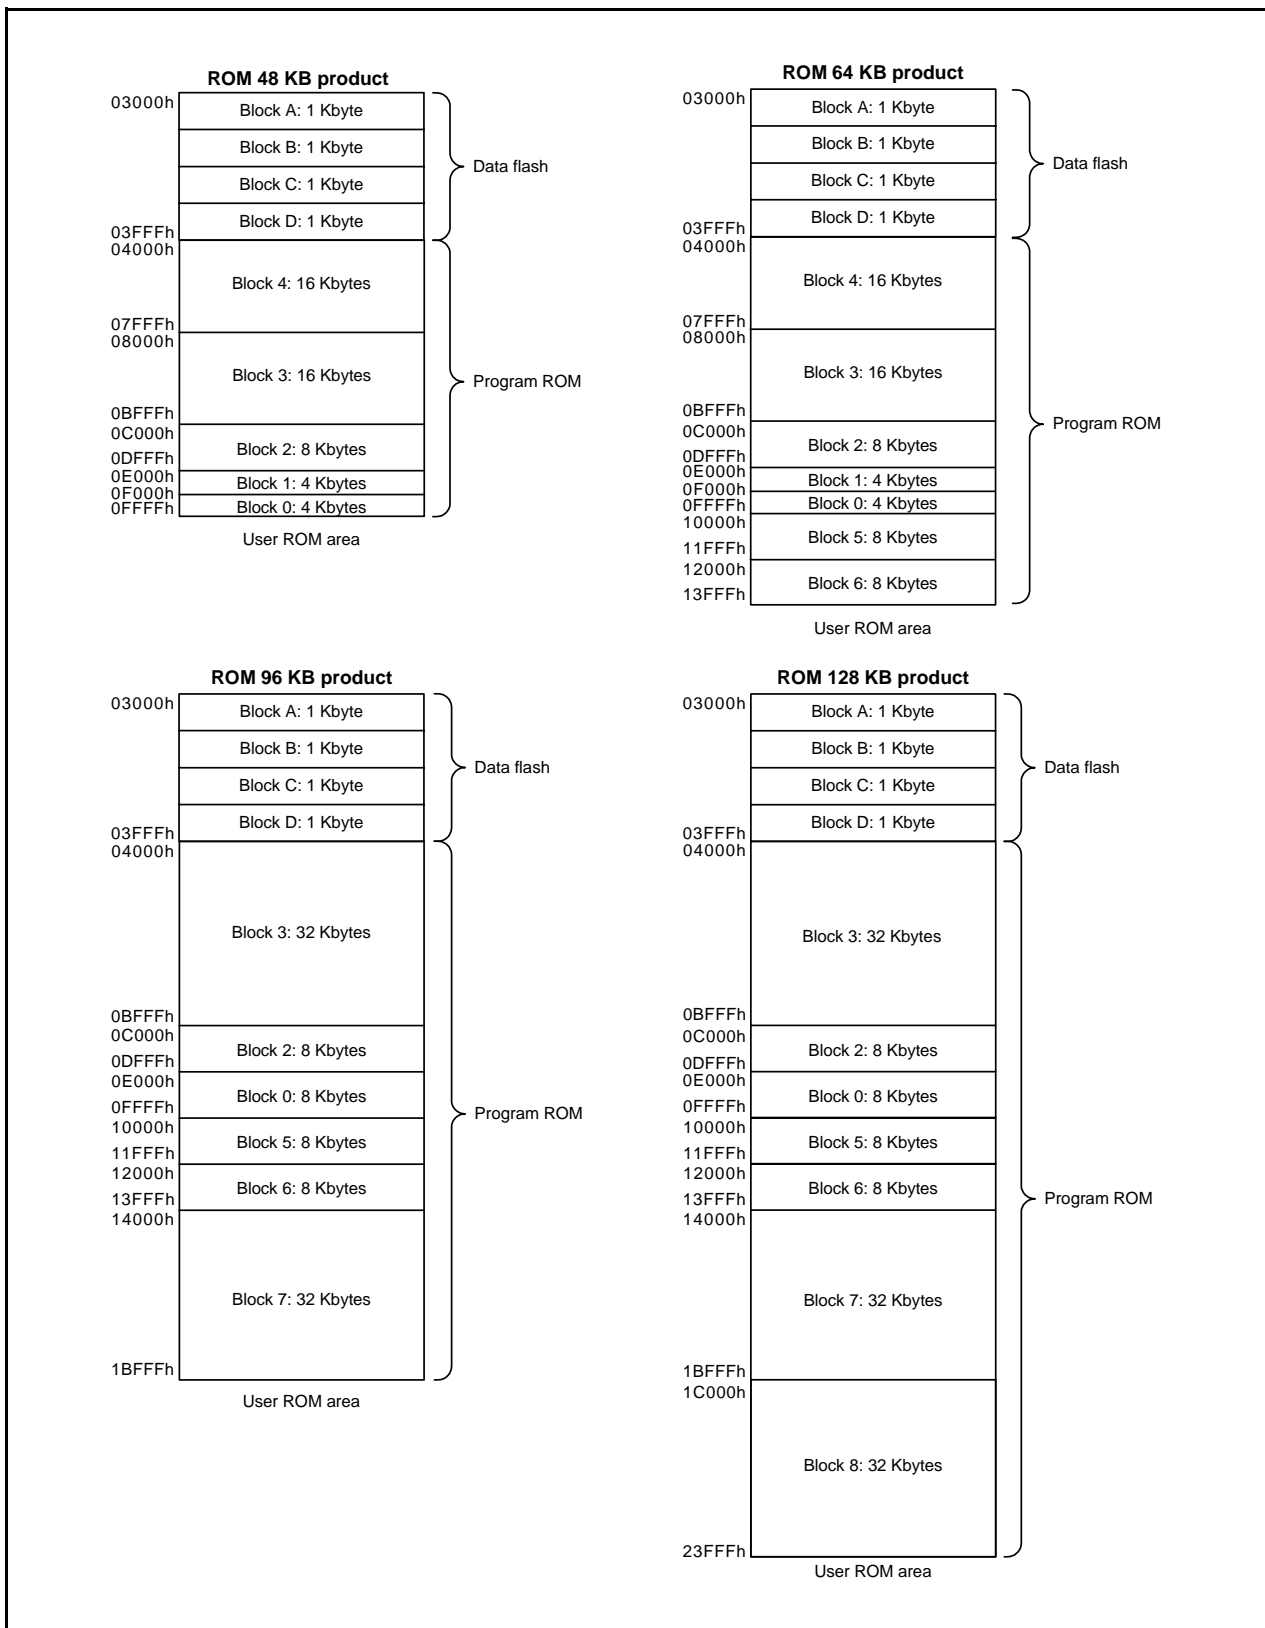

Figure 34.1 Flash Memory Block Diagrams of R8C/L35C, L36C, L38C, and L3AC Groups
- The number of blocks and block division vary with the MCU. Refer to **Figure 34.1 Flash Memory Block Diagrams of R8C/L35C, L36C, L38C, and L3AC Groups** for details.
Figure 34.1 shows the Flash Memory Block Diagrams of R8C/L35C, L36C, L38C, and L3AC Groups.